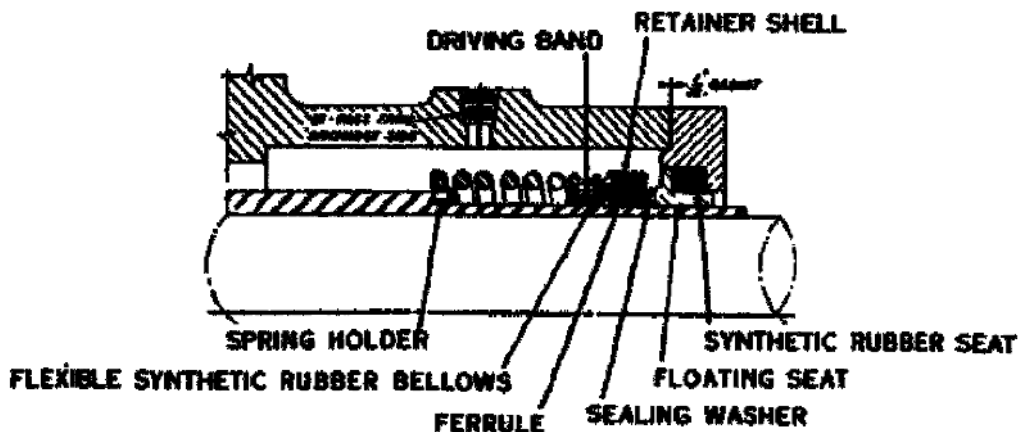

Figure 84. Cutaway of a mechanical seal.
10. **Dismantling.** Back off the gland bolts to free the gland plates. Then remove the rotating element from the pump and take off the bearings and shaft nuts. Let us follow the remaining steps as illustrated in figure 84.